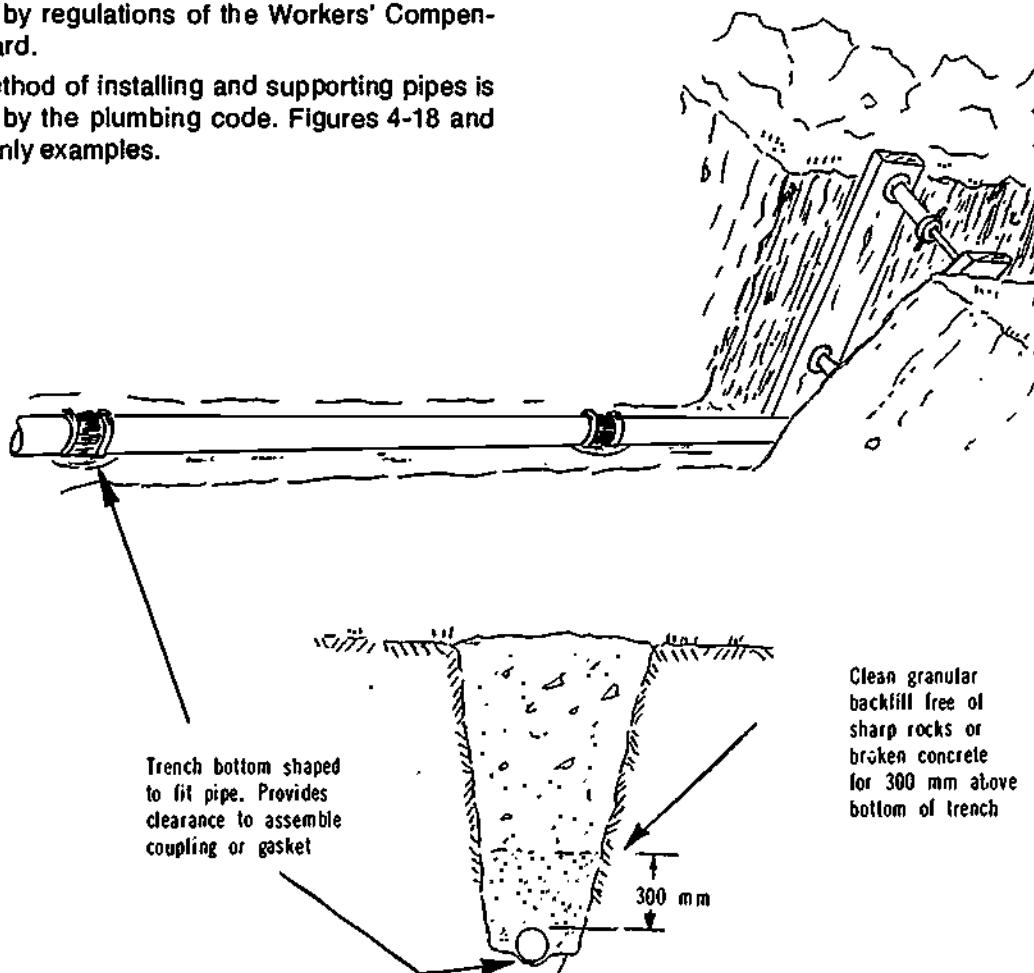

Figure 4-18. Examples of Installing and Supporting Pipes
2. The method of installing and supporting pipes is governed by the plumbing code. Figures 4-18 and 4-19 are only examples.